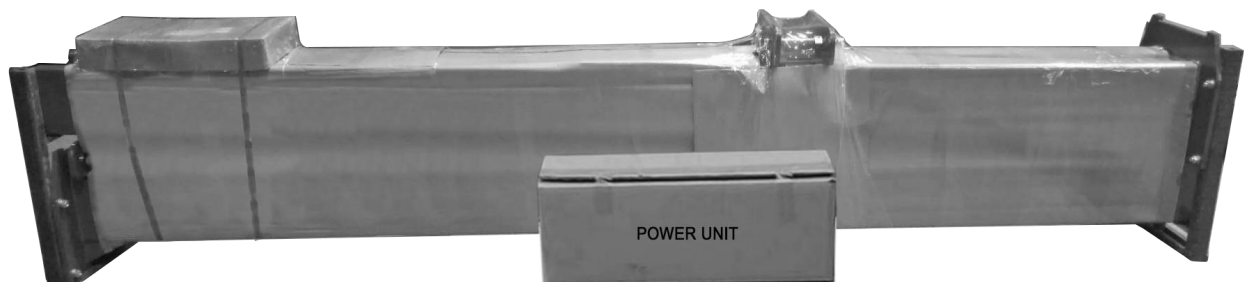

Fig. 7
1. Packaged lift and hydraulic power unit (**see Fig. 7**)